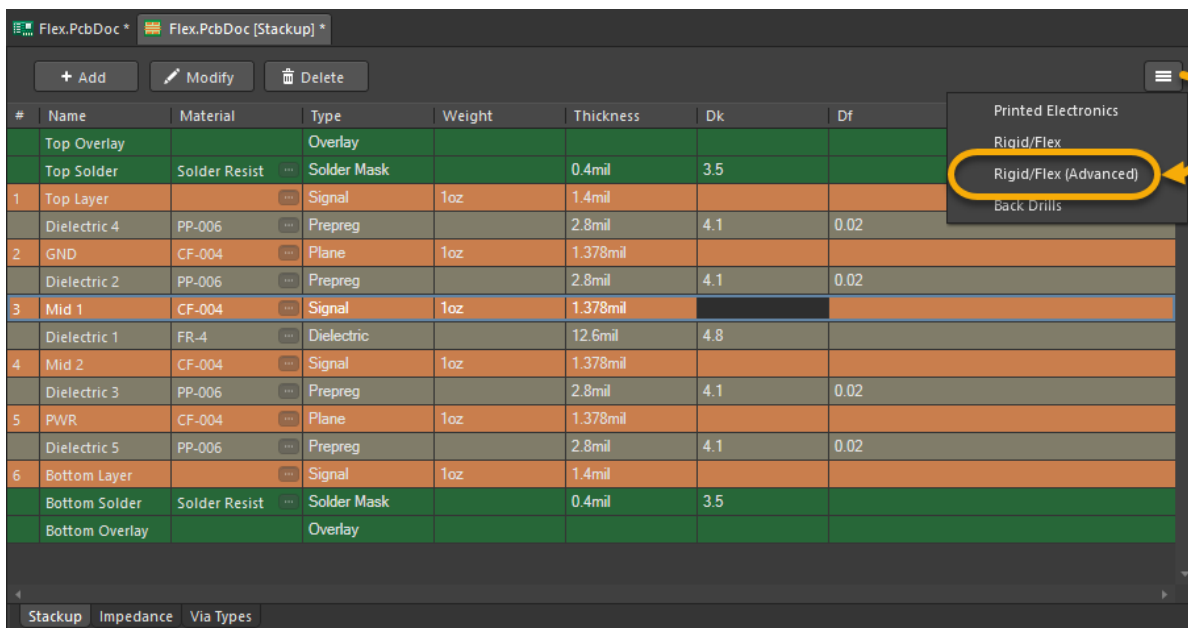

Figure 6. Advanced Layer Stack Manager View
14. Click the **Features** button in the top right corner and select **Rigid/Flex (Advanced)** as shown in Figure 6. This will allow us to add multiple layer stacks.